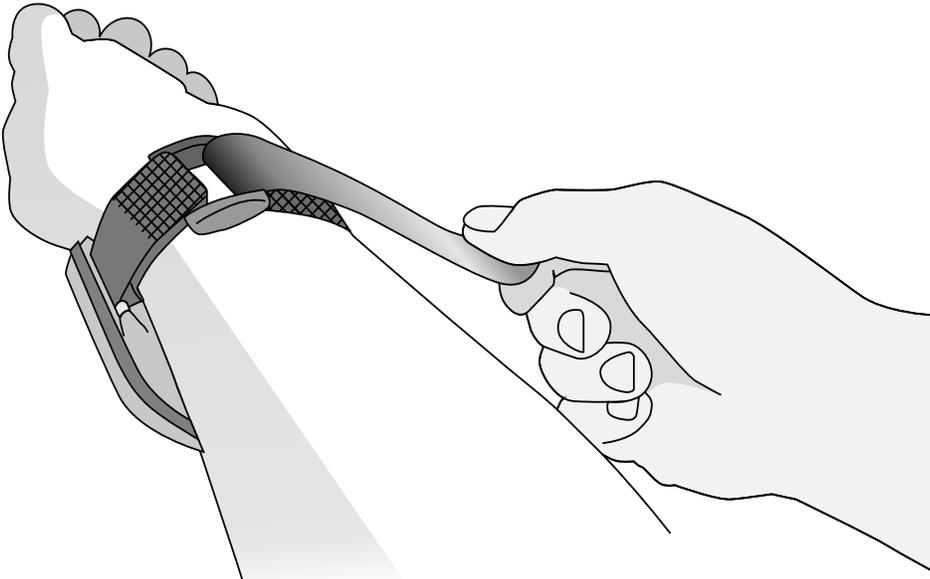

Figure 12: Fasten Wristband
4. Fold the wristband back over the plastic ring (figure 12) and attach the fastener to the wristband (figure 13 or figure 14). Wrist circumference will determine which fastener is used.